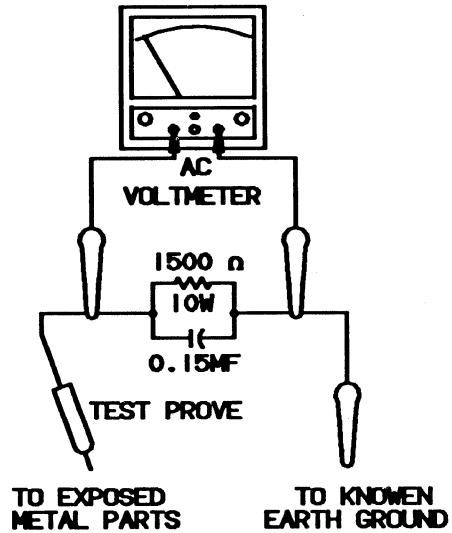

Figure 1 ,leadkage current circuit
- Use a SSVM or VOM with 1000 ohms per-volt or higher sensitivity to measure the AC voltage drop across the resistor. (See Figure 1.)